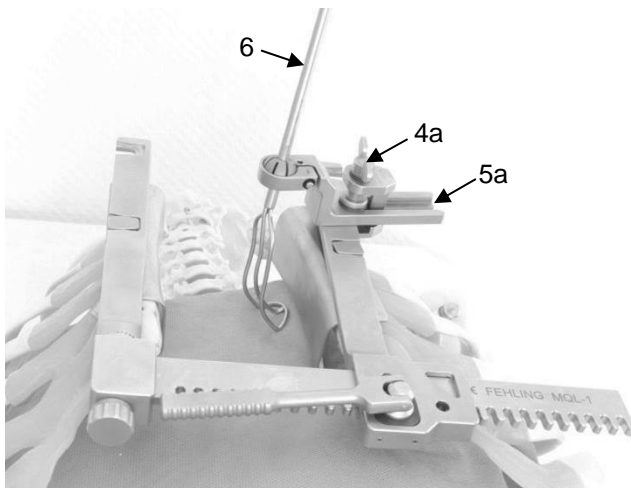

Fig. 9: Configuration example for the CEBOTARI universal sternal retractor with an atrial retractor
Atrial retractors (6) (see Table 2, Page 9) can be positioned anywhere on the retractor arms (Fig. 9) (including the area of the blades) using clamping element MZZ-1Q (4a) as well as a suitable ball adapter (5a). Assembly of the clamping element and the ball adapter is performed according to the G217 Instructions for Use.